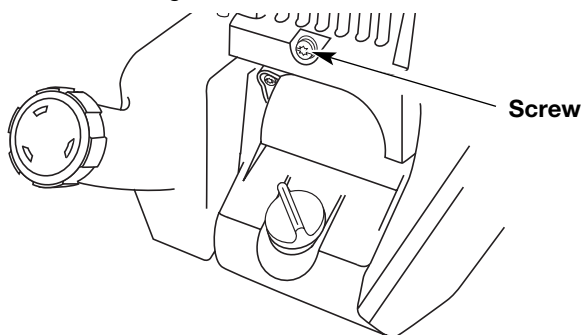

Fig. 24
- Remove the screw behind the engine cover (Fig. 24).